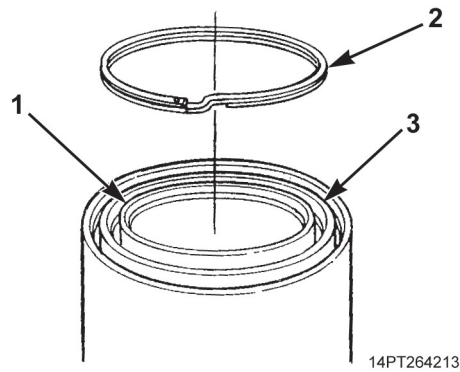

Figure 9. Spiral Retaining Ring Removal.
13. Retract sleeve (Figure 9, Item 1). Remove spiral retaining ring (Figure 9, Item 2) from sleeve (Figure 9, Item 3). Discard spiral retaining ring.